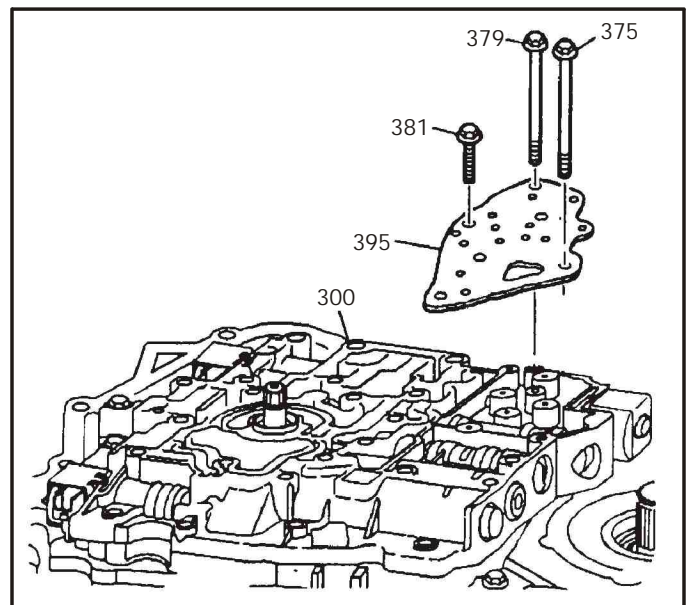

Figure 50
12. Remove the Pressure Switch Assembly and set aside for now, as shown in Figure 50.